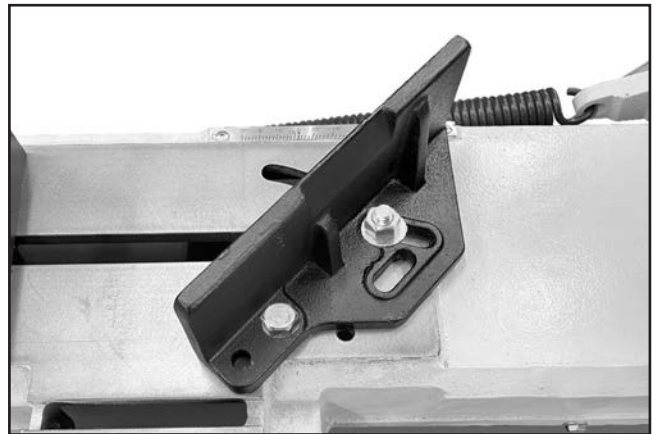

Figure 45. Rear jaw positioned in alternate location.
6. Use scale to set angle of rear jaw, then secure with carriage bolt, flat washer, and angle hex nut removed in **Step 3** (see **Figure 45**).